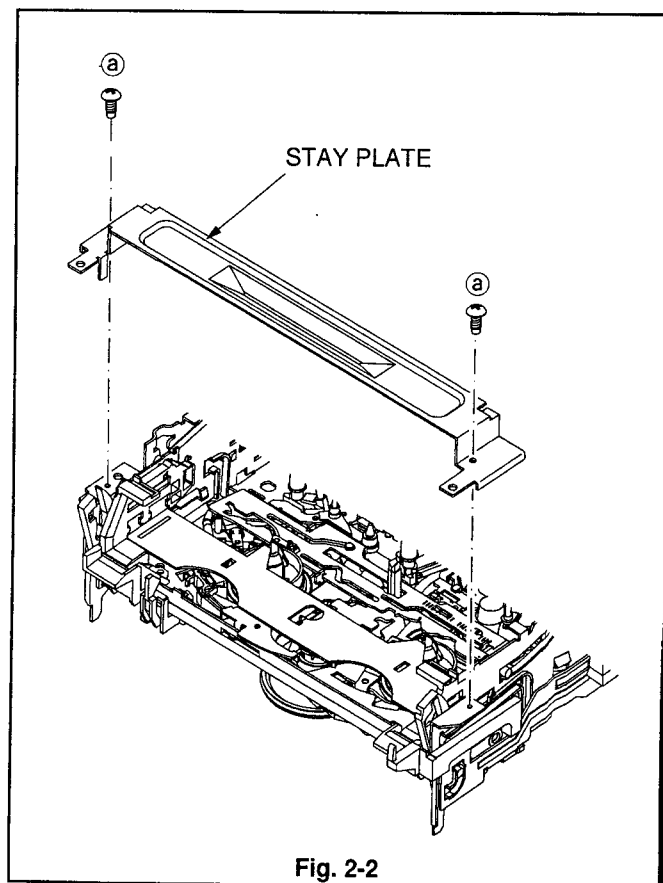

Fig. 2-2
1. Remove the two screws (a) fastening the STAY PLATE shown in the Fig. 2-2 to remove the STAY PLATE.
1. Install the STAY PLATE shown in the Fig. 2-2.